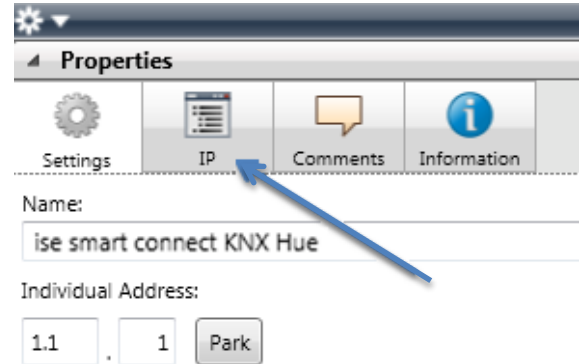

Figure 4: Device properties dialogue of the ETS.
2. Display the properties of the device in the sidebar of the ETS as shown in Figure 4.